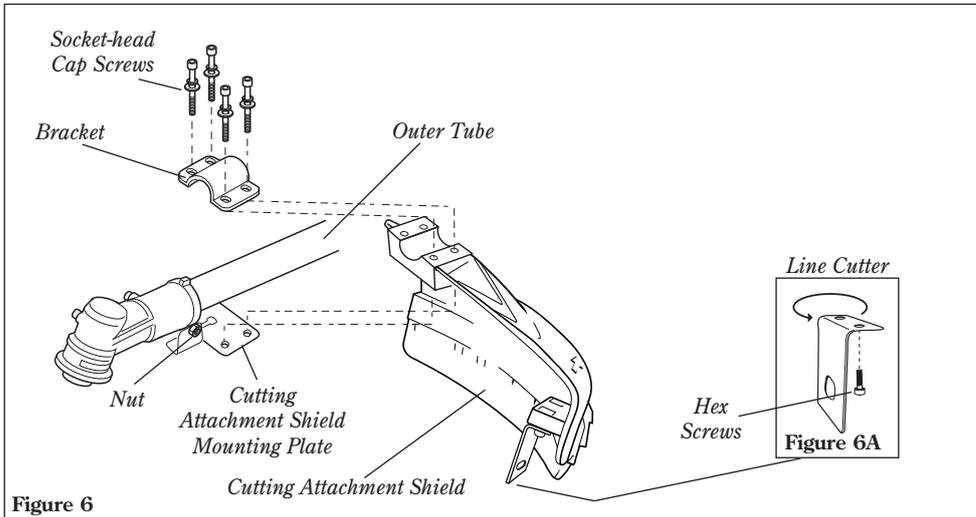

Figure 6
1. Insert the cutting attachment shield between the outer tube and the cutting attachment shield mounting plate. See Figure 6.